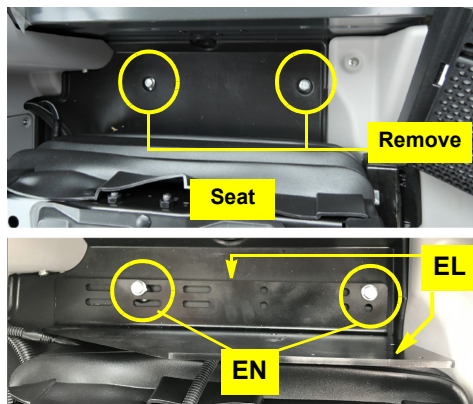

Figure 1a: ECU mounting bracket location and installed
- a. Identify the ECU mounting location behind the operators seat (Figure 1a, top image). Remove the two bolts viewed through the plate.
Using hardware **EN** in the two bolt holes, attach bracket **EL**, its long, vertical side toward the seat (Figure 1a, bottom image).